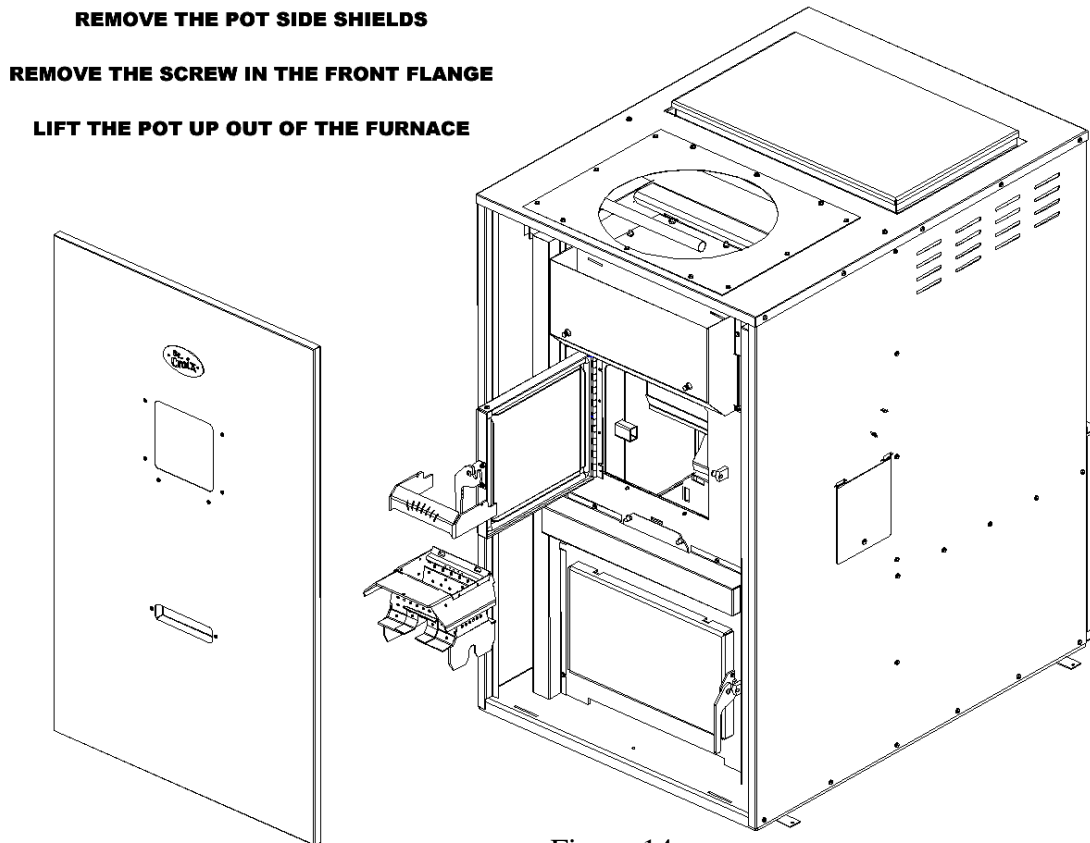

Figure 14
Figure 14 shows in more detail how the pot is removed from the stove for cleaning. The pot should not need to be removed for cleaning if the method is used shown in figures 13 using a cleaning tool. Try cleaning the pot using both methods to become more familiar with your stove. The Revolution pot design has been changed in this model to make it easier to remove without having to remove the Gearmotor and the Switches that control the drum.
1. First remove the pot as shown in figure 14.